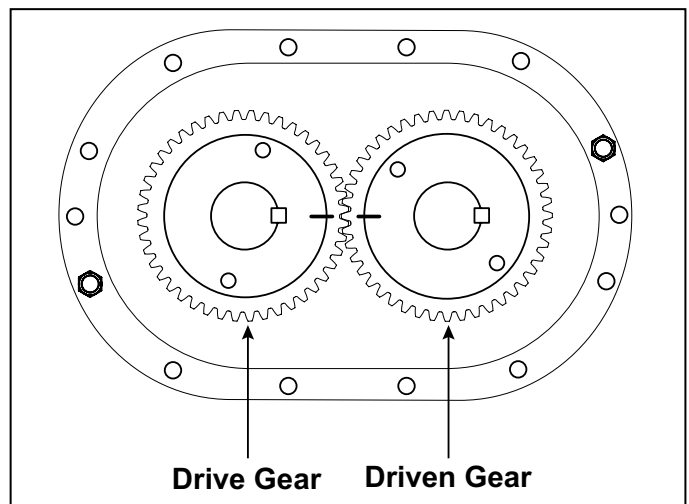
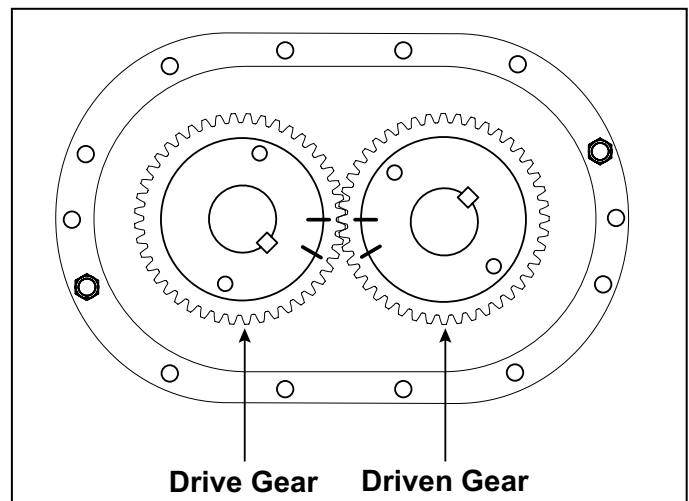

Figure 6A - Keyways in line and timing marks matched
Figure 6B - Timing marks advanced 3 teeth (Reference marks aligned)
- a. Align timing marks on gears (Figure 6A). Rotate drive gear clockwise approximately three teeth and mark a matching reference line on each gear as shown in Figure 6B. This gear position is necessary so rotors will clear and not jam. Do not allow the gears to move from the matched reference line while pulling. Use a light rocking motion to insure that the lobes have not jammed. Remove driven gear first then drive gear. **WARNING:** Failure to properly pull this gear could result in damage to rotor keyway or a bent rotor shaft. Never use excessive force.
9. Mechanical Seal Series - Tap out bearings from both end plates. Note location of spacers under bearings and retain for reassembly. To remove seals [54] use a cape chisel or similar tool being careful not to nick or cut the bearing or seal bores. Remove the labyrinth seal [51] in the same manner. The seals will be damaged by removal and must be replaced. 92/93 Series - Carefully tap out seal slinger [238], spacer [123], and bearings. The oil slinger stator [79] should not be removed unless it is damaged or the end plate is to be replaced. **NOTE:** On some older units the oil seal slinger is made up of two separate parts, items 238 & 129. The newer design combines these two parts and is identified as item 238.
9. Insert gear keys [24] in their proper location and flush with top of shaft. Use the two keyways facing to the right. A tight fit is required. Coat shafts and keys with lubricant. Install drive gear (right hand helix) on drive rotor (left side). To install driven gear, align reference marks as shown in Fig. 6B. Install driven gear carefully to avoid damaging any teeth when engaging opposite gear. Secure with spacers [57], washers [25], and flat head Allen screws [29]. NOTE: All timing gears must be used in sets, as they are matched and serially numbered.